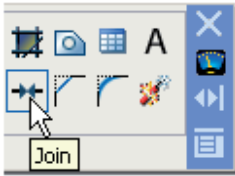

Fig. 5.37 The **Join** tool icon from the **2D Draw control panel**
2. Call the **Join** tool – either *click* the **Join** tool icon in the **2D Draw control panel** (Fig. 5.37), or *left-click* its tool icon in the **Modify** toolbar, or *enter* **join** or **j** at the command line. The command line shows: